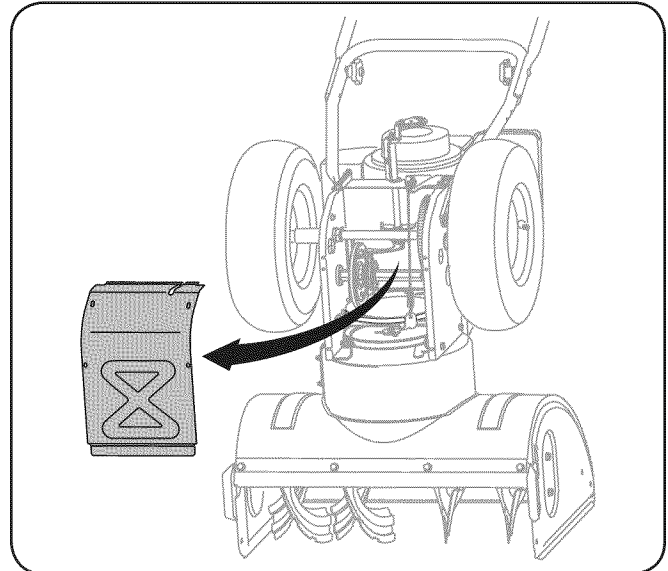

Fig. 7-3
3. Remove the frame cover from the underside of the snow thrower by removing the self-tapping screws which secure it. Refer to Fig 7-3.
5. Remove the frame cover from the underside of the snow thrower by removing the self-tapping screws which secure it. See Fig. 7-3.
- Remove the frame cover from the underside of the snow thrower by removing the self-tapping screws which secure it. Refer to Fig. 7-3.